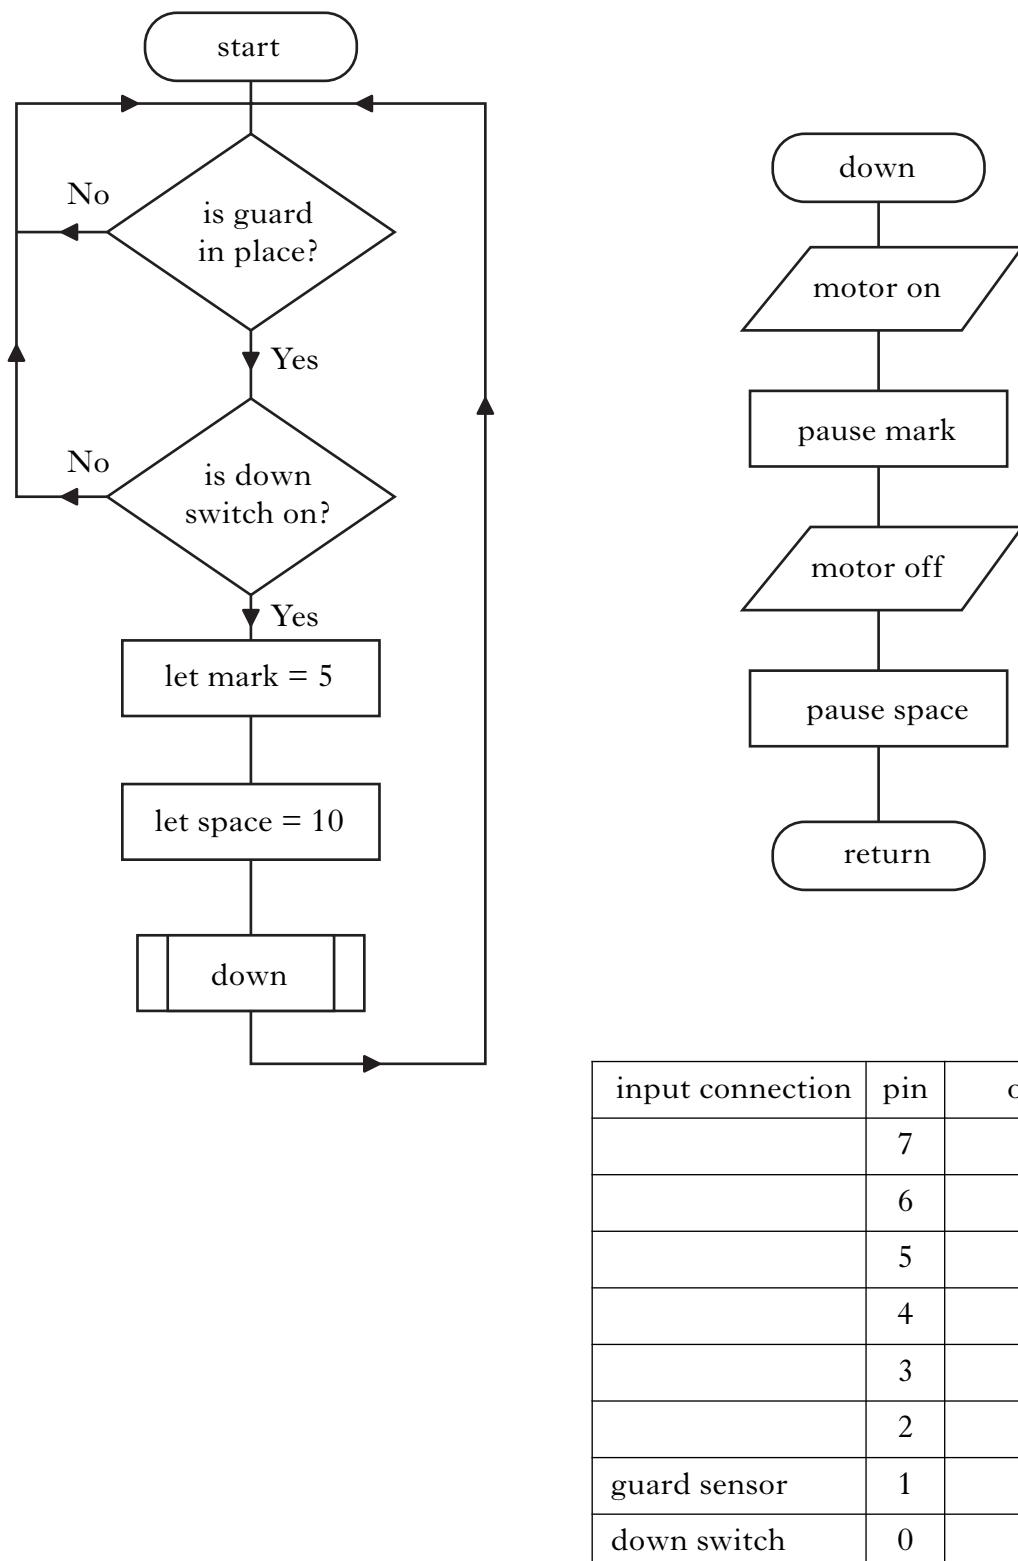

Figure Q10(b)
10. Figure Q10(a) shows a window cleaner's platform.
- (a) Draw a free body diagram of the system shown in Figure Q10(a).
The platform is moved by a motor operated by a microcontroller. The flowchart for lowering the platform and the input and output connections are shown in Figure Q10(b).